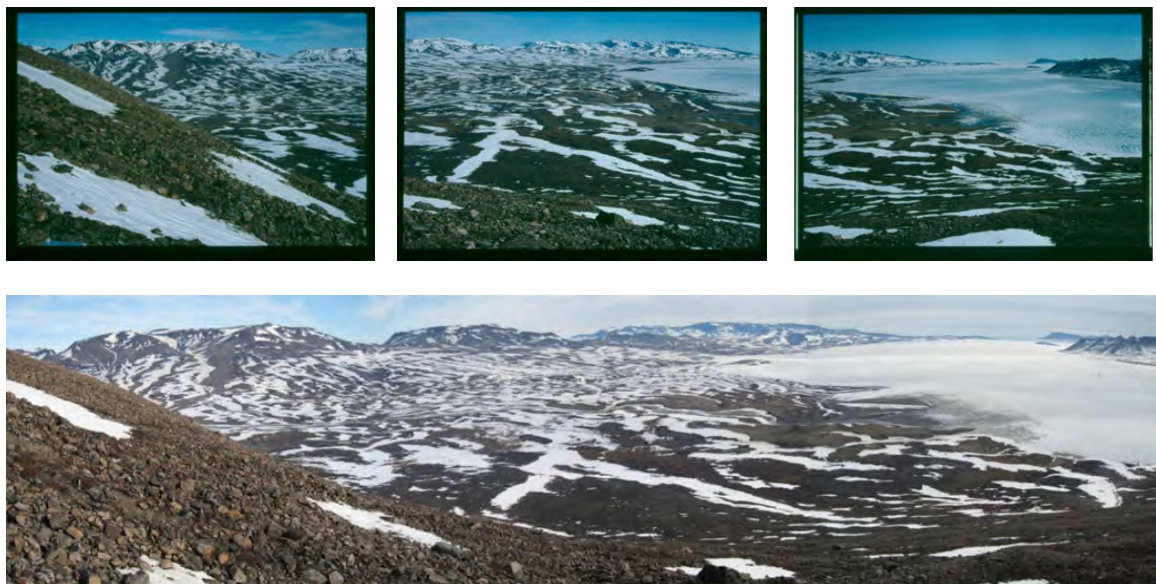

Figure 22: Monitoring photos. Three photos cover the central part of the valley and Young Sound.
1. Take three photos of the valley (see Fig. 22). Keep the mountains in the horizon in the absolute uppermost part of the photo.